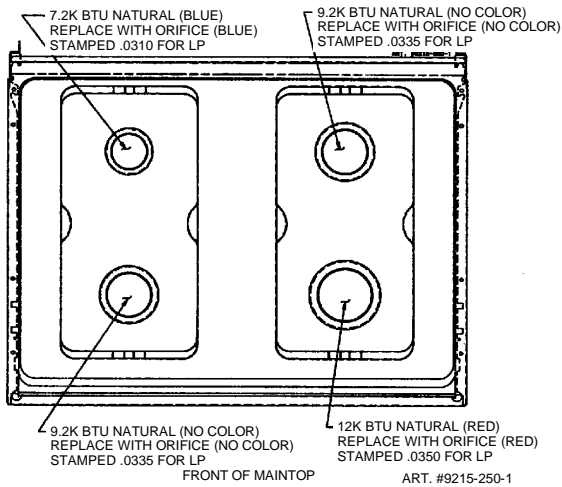

FIGURE 6
- Place the corresponding orifice hood on the burner fitting according to figure 6. Turn the orifice hood clockwise by hand approximately one turn. Tighten the orifice hood clockwise with a 1/2" socket wrench approximately 2 1/2 turns.